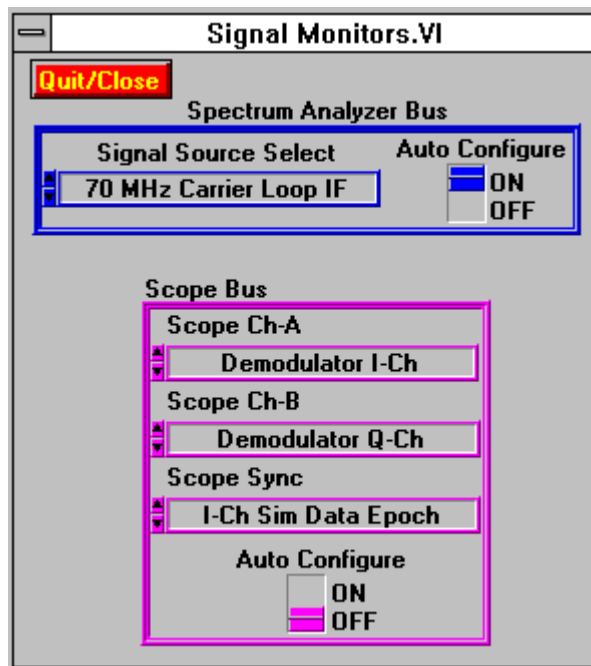

Figure 3.4 Monitor Screen
The Signal Monitors Screen functions like a front panel control and enables the user to select a monitor point for the spectrum analyzer or the digital oscilloscope. Refer to Figure 3.4 and Tables 3.4A and 3.4B. The screen displays two main areas of control; (1) Spectrum Analyzer and (2) Digital Oscilloscope.